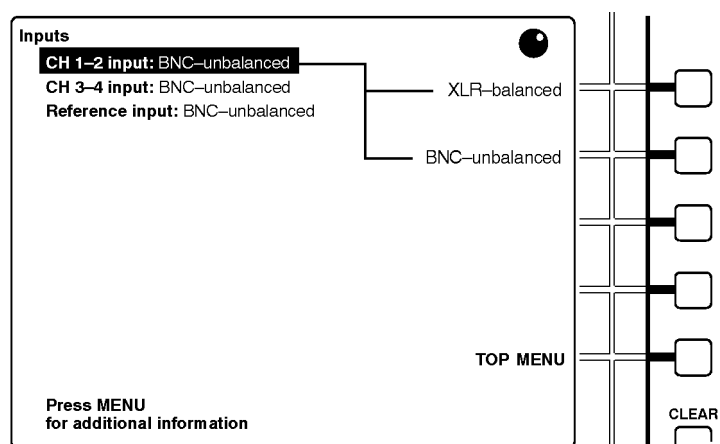

Figure 2–11: The inputs submenu
- The five buttons immediately to the right of the display are called soft buttons. The printed/molded lines to the left of these buttons serve to associate the buttons with on-screen menu choices or functions. In Figure 2–10, the bottom soft button is associated with the SUBMENU function, but you can press *any* soft button to enter the Inputs submenu. After you do, the display will resemble the one illustrated in Figure 2–11.